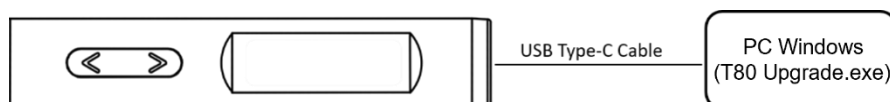

Figure 10-1 Connection
**Step 2:** Power off the device, press and hold the B button, then use the USB Type-c cable to connect to the computer, power on the device, about 4 seconds, the screen displays "Upgrade...", then release the button. The operation is shown in Figure 10-1 below: